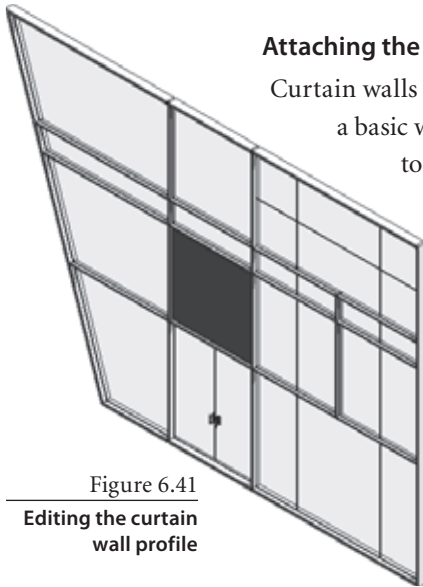

Figure 6.41
2. Click the Edit Profile button in the Modify Wall panel. You will be switched to a Sketch mode in which the outer shape of the curtain is represented as a sketch of connected lines. Change the sketch similar to the final image shown in Figure 6.41.
4. The resulting curtain wall should look like the one in Figure 6.41.